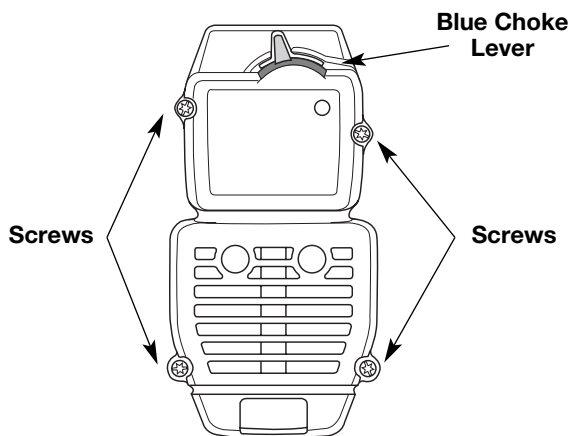

Fig. 25
2. Remove the four (4) screws securing the air filter/muffler cover (Fig. 25). Use a flat blade or T20 Torx bit screwdriver.
2. Insert the four (4) screws into the holes in the air filter/muffler cover (Fig. 25) and tighten. **Do not over-tighten.**